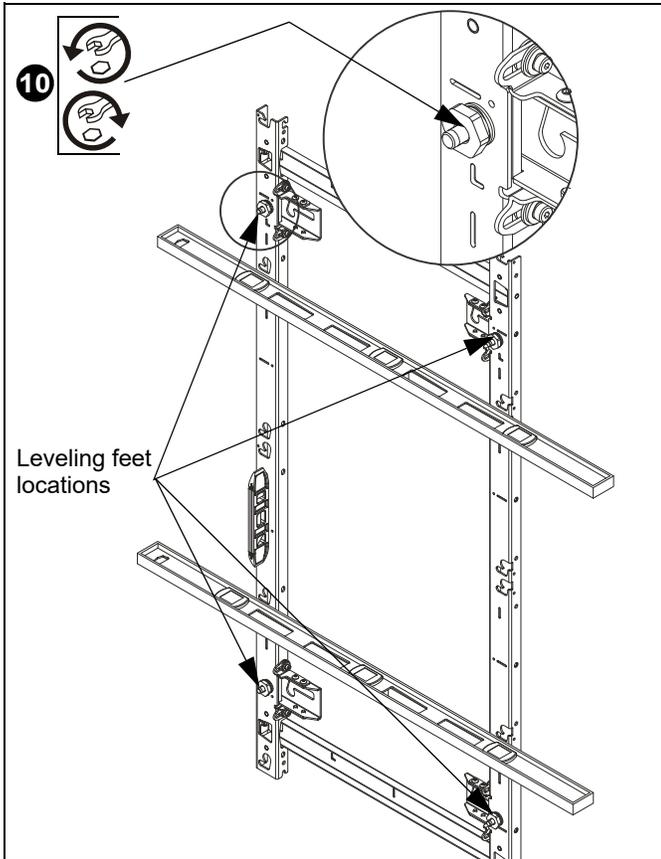

Figure 11
- Using a level on the front of the mount in various places, use a 1" socket and T-handle driver to adjust the leveling feet on the mount until the mount is plumb. (See Figure 11)